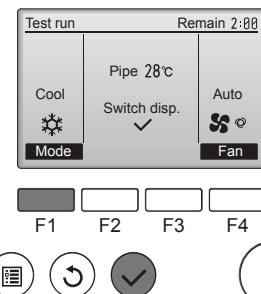

Fig. 7-6
- ① Press the **F1** button to go through the operation modes in the order of "Cool" and "Heat". (Fig. 7-6)